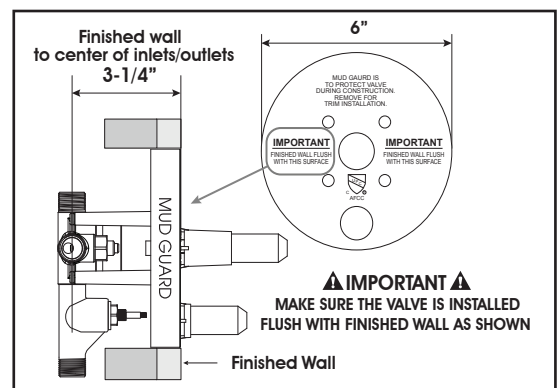

FIG. 1
2. The depth of rough-in should account for thickness of wall materials to be used, combining thickness of wall board and finished wall materials. It is CRITICAL TO PLACE MUD GUARD FLUSH WITH FINISHED WALL. FIG. 1